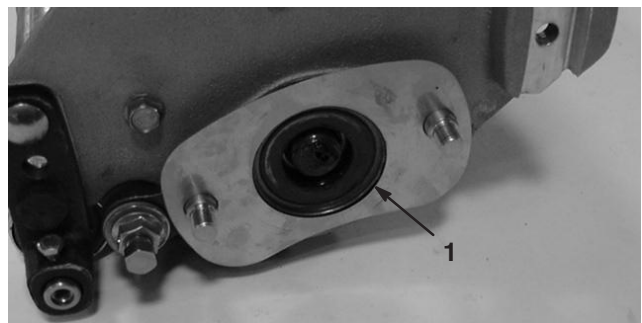

Figure 5
10. On cutting units with serial numbers prior to 239999999, remove the oil seal from the bearing housing and replace with a new larger I.D. seal (Fig. 5). Seal to be flush with the bottom of the counter bore.